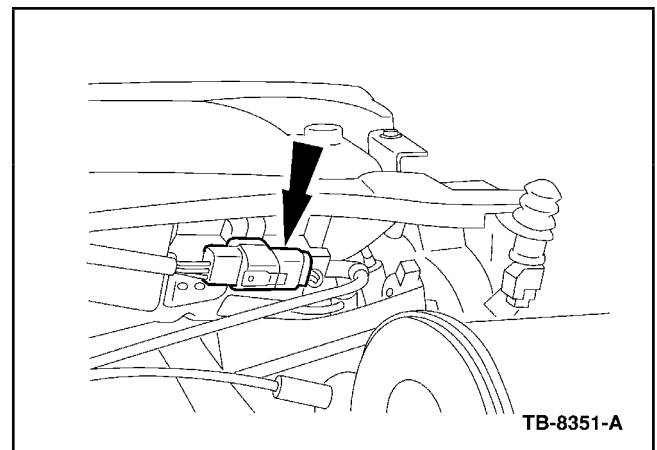

Figure 3 - Article 05-23-7
6. Disconnect the electrical connector (Figure 3).